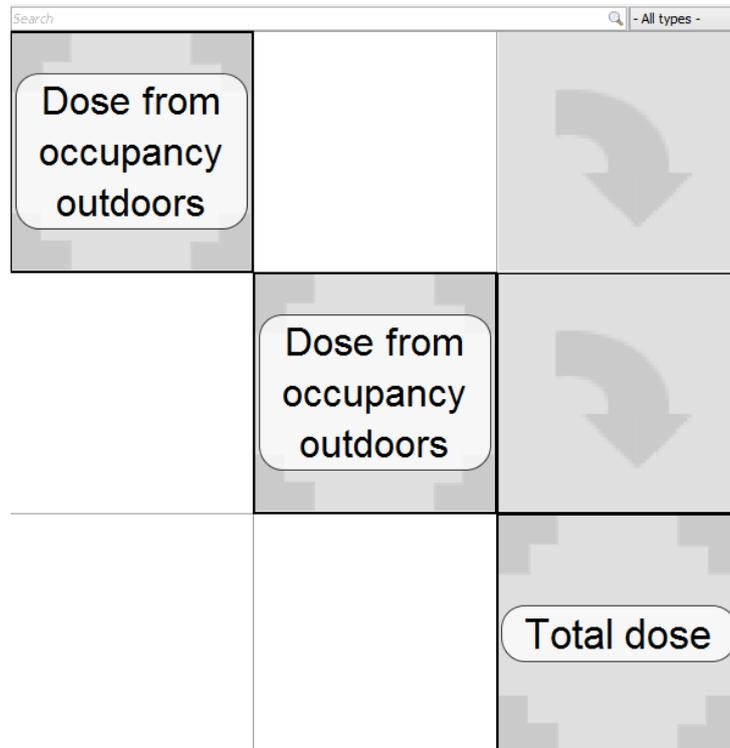
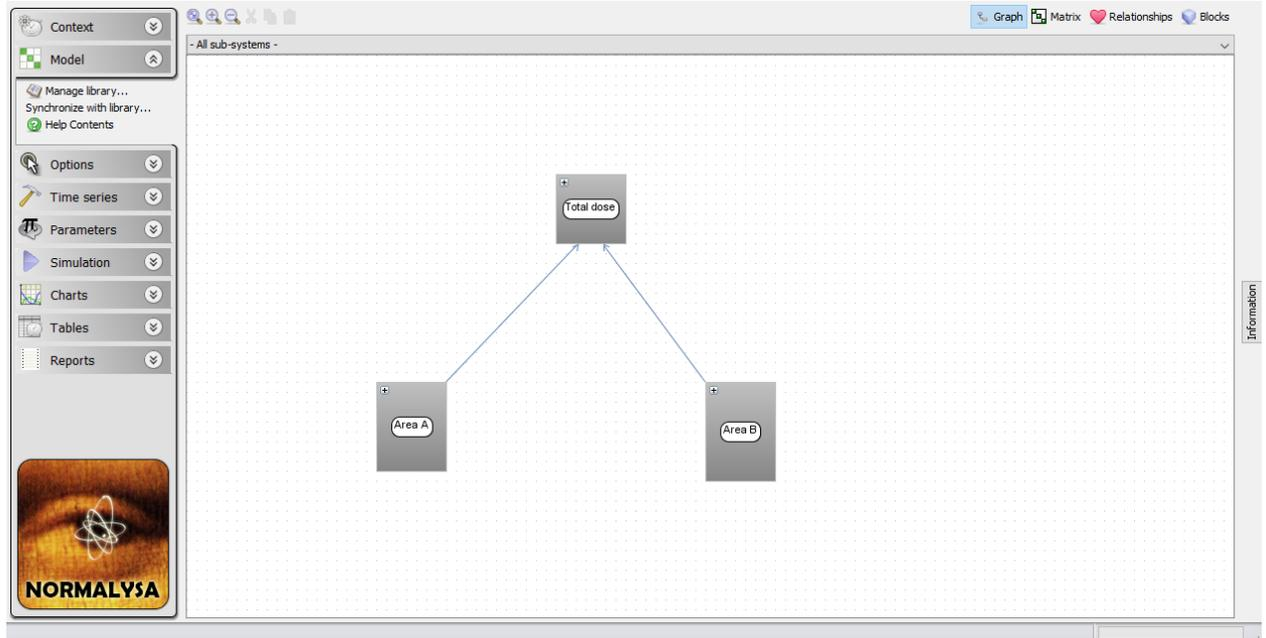

FIG 11. Full model for Exercise 1a including main modules and “connectors” in ‘Matrix’ view.
FIG 14. NORMALYSA model for Exercise 1 in the *'Graph'* view.
9. Repeat the process of connecting modules until both ‘Dose from occupancy outdoors’ boxes are connected to the ‘Total Dose’ box (FIG 11).
Before leaving the *'Model'* window, you can have a look at the NORMALYSA model that you have built in the *'Matrix'* view (see FIG 11) and *'Graph'* view (see FIG 14).